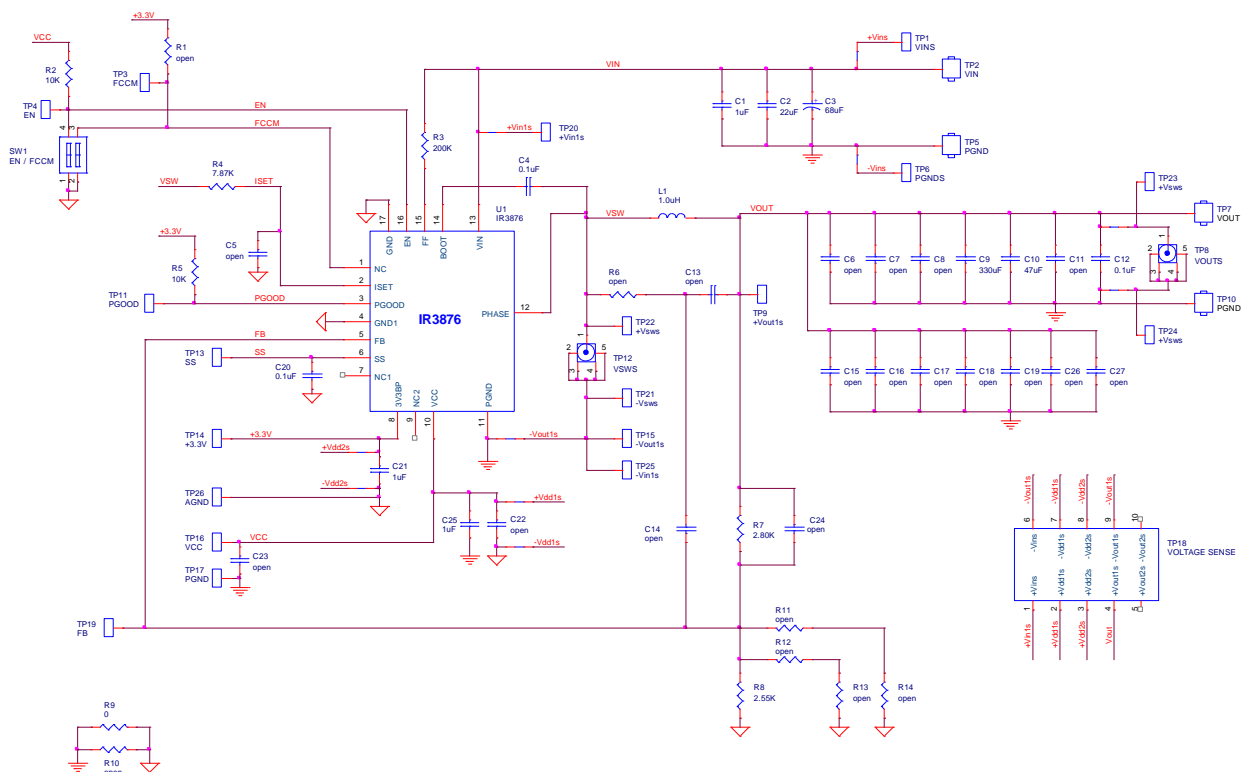

Figure 7. Typical Application Circuit for $V_{OUT} = 1.05V$, $F_s = 300kHz$
Tested with demoboard shown in Figure 7, $V_{IN} = 12.6V$, $V_{CC} = 5V$, $V_{out} = 1.05V$, $F_s = 300kHz$, $T_A = 25^{\circ}C$, no airflow, unless otherwise specified
Tested with demoboard shown in Figure 7, VIN = 12.6V, VCC = 5V, Vout = 1.05V, Fs = 300kHz, TA = 25°C, no airflow, unless otherwise specified
- For applications with all ceramic output capacitors, the ESR is usually too small to meet the stability criteria. In these applications, external slope compensation is necessary to make the loop stable. The ramp injection circuit, composed of R6, C13, and C14, shown in Figure 7 is required. The inductor current ripple sensed by R6 and C13 is AC coupled to the FB pin through C14. C14 is usually chosen between 1 to 10nF, and C13 between 10 to 100nF. R6 should then be chosen such that $L/DCR = C13 \cdot R6$.